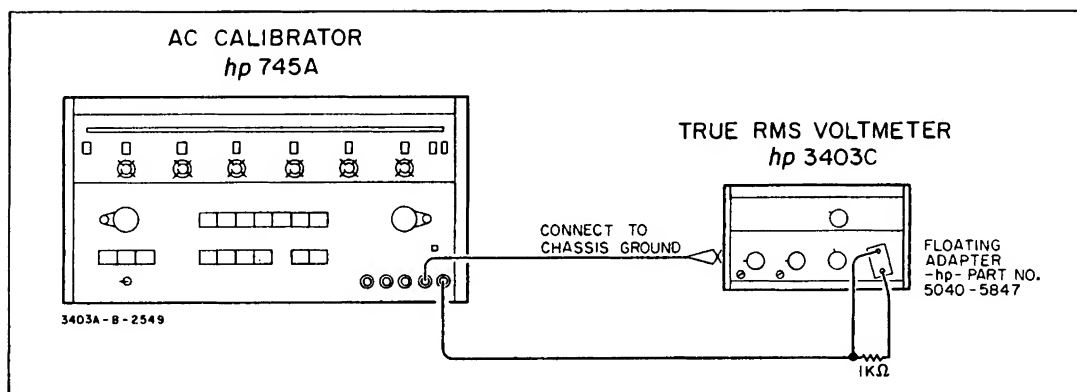

Figure 5-2. AC Common-Mode Voltage Check.
5-25. Effective common-mode rejection is the ratio of the common-mode voltage to the resultant error in reading with 1 kΩ unbalance in either lead. An ac calibrator, a 1 kΩ resistor, and an input adapter (-hp- Part No. 5040-5847) are required. (See Figure 5-2).
b. Connect 1 kΩ resistor and ac calibrator to 3403C as shown in Figure 5-2.